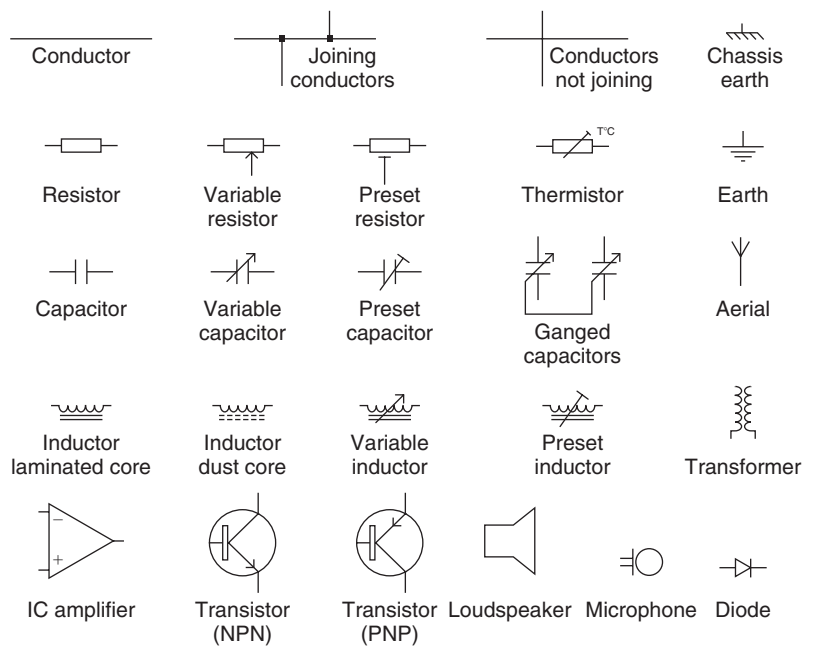

Figure 1.1 Some symbols used in UK circuit diagrams
Figure 1.1 shows some symbols that are used for common components. Most of these use two connections only, but a few use three or more. These symbols are UK [British Standard (BS)] and European standards, but circuit diagrams from the USA and Japan may use the alternative symbols for resistors and capacitors.